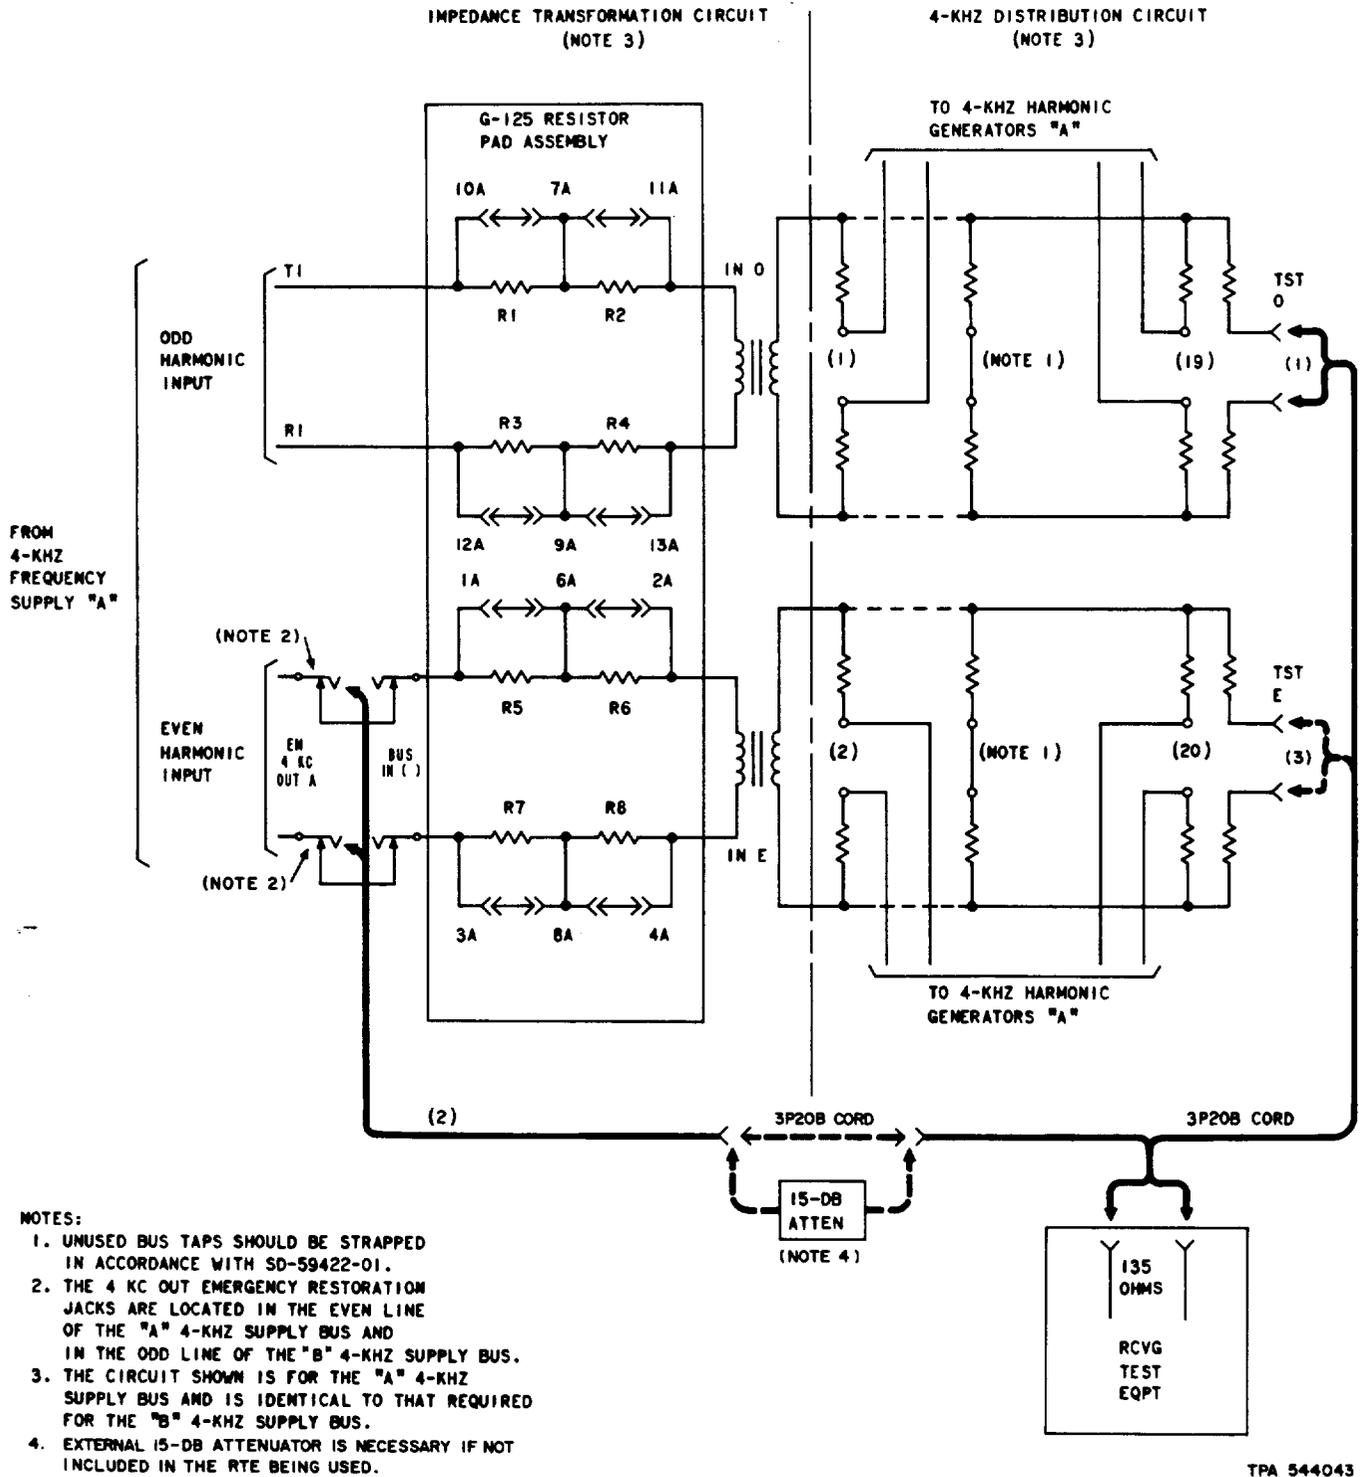

Fig. 2—J68775U 4-kHz Frequency Supply Circuit—Measurement and Adjustment of Output Power
The J68775AU impedance transformation and 4-kHz distributing circuit (designated A or B) receives two input signals from a 4-kHz primary frequency supply and distributes odd and even harmonics to a maximum of twenty harmonic generators or L3 frequency converter circuits. A typical LMX-1 installation would include two duplicate J68775AU units receiving inputs from the **A** and **B** 4-kHz primary frequency supply. For the purpose of simplification, Fig. 2 contains the J68775AU impedance transformation and 4-kHz distributing circuit for only the **A** 4-kHz supply bus. The test in this section should be repeated for the **B** 4-kHz supply bus.
4	<p>Connect the RTE to the TST O jack of the 4-kHz distribution bus (A or B) under test [patch (1), Fig. 2].</p>
7	<p>Perform the following steps (in the order listed), as necessary, to meet the requirement; then proceed to Step 9.</p> <p>(a) Remove patch (1), Fig. 2.</p> <p>(b) Connect the RTE (through a suitable 15-dB attenuator, if required) to the associated EM 4 KC OUT ( ) jack of the distributing circuit (A or B) under test [patch (2), Fig. 2].</p> <p>(c) Measure the power at the EM 4 KC OUT ( ) jack.</p> <p>Requirement: +14.0 dBm <math>\pm</math>3.0 dB</p> <p>Note: The attenuator value plus the meter indication is equal to the actual measured power.</p> <p>(d) If the requirement of Step 7(c) is met, remove the front panel cover of the J68775AU 4-kHz distribution unit and restrap the impedance transformation circuit (Fig. 2), as indicated in Table A, to meet the requirement of Step 5.</p> <p>(e) If the requirement of Step 7(c) is not met, test electron tubes S1 and S2 in the 4-kHz primary frequency supply per Section 356-150-501.</p> <p>(f) Perform tests in Section 356-151-503.</p>
8	<p>When the requirement of Step 5 is not met and the EM 4 KC OUT ( ) jacks are not provided, perform the following steps (in the order listed), as necessary, to meet the requirement; then proceed to Step 9.</p> <p>(a) Remove the front panel cover of the J68775AU 4-kHz distribution unit and restrap the impedance transformation circuit (Fig. 2), as indicated in Table A, to meet the requirement of Step 5.</p> <p>(b) Test electron tubes S1 and S2 in the 4-kHz primary frequency supply per Section 356-150-501.</p> <p>(c) Perform tests in Section 356-151-503.</p>
10	Connect the RTE to the TST E jack of the 4-kHz distribution bus (A or B) under test [patch (3), Fig. 2], and repeat the entire test.